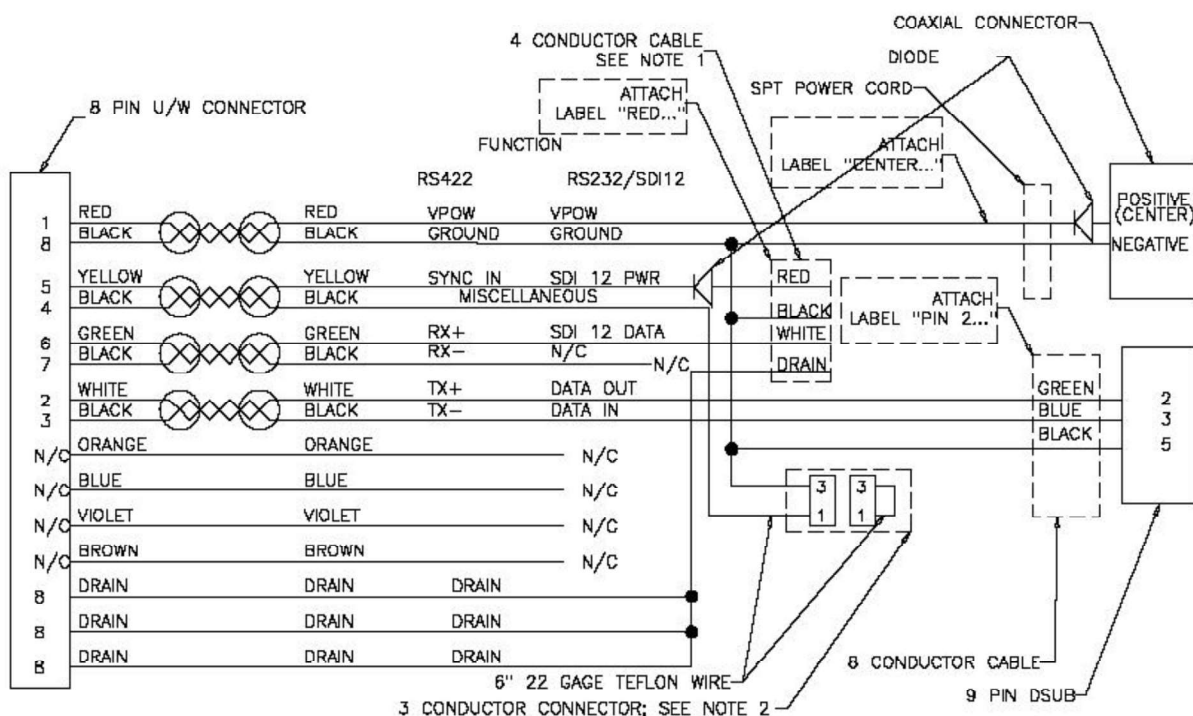

Figure 7-5. 1500 & 3000-kHz Original Canister Housing Power/Comms Cable wiring diagram (RS-232/SDI-12)
- Figure 7-5 shows the wiring of the 1500 and 3000-kHz SL power and communications cable for RS232 and SDI-12 systems that do not support the Flow Display (wire colors are for a standard SonTek cable). These systems were built before April 2005.
Cable/connector description for 1500 and 3000-kHz original canister housing Argonaut-SL systems using RS232/SDI-12 (without Flow Display). Refer to Figure 7-5.